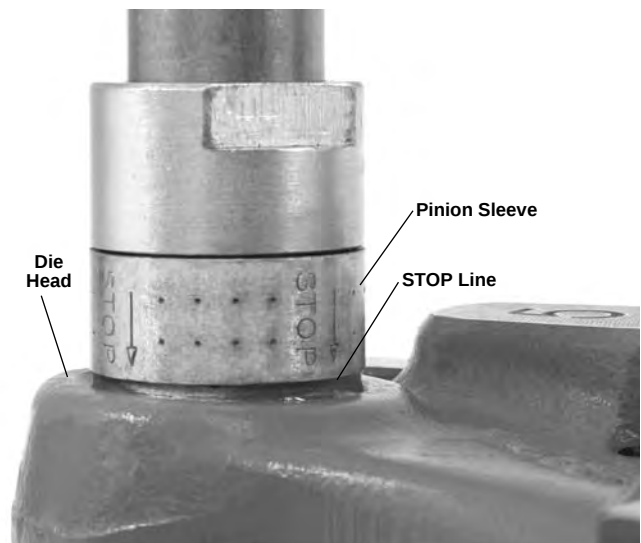

Figure 8 – Thread Complete – Top of Die Head Flush With STOP Line
5. Continue ratcheting until the top edge of the die head is flush with the red stop line on the pinion sleeve (*see Figure 8*).
12. Continue threading until the edge of the die head is flush with the red stop line on the pinion sleeve (Figure 8). Release foot switch. If threading is continued past the red stop line, the pinion shaft will disengage to prevent jamming. Do not continue to operate with the pinion shaft disengaged – over time this can cause tool damage.